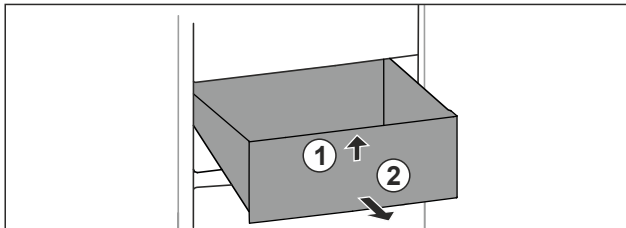

Fig. 71
- ▶ Lift up drawer at the front. Fig. 71 (1).
- ▶ Remove drawer to the front. Fig. 71 (2).